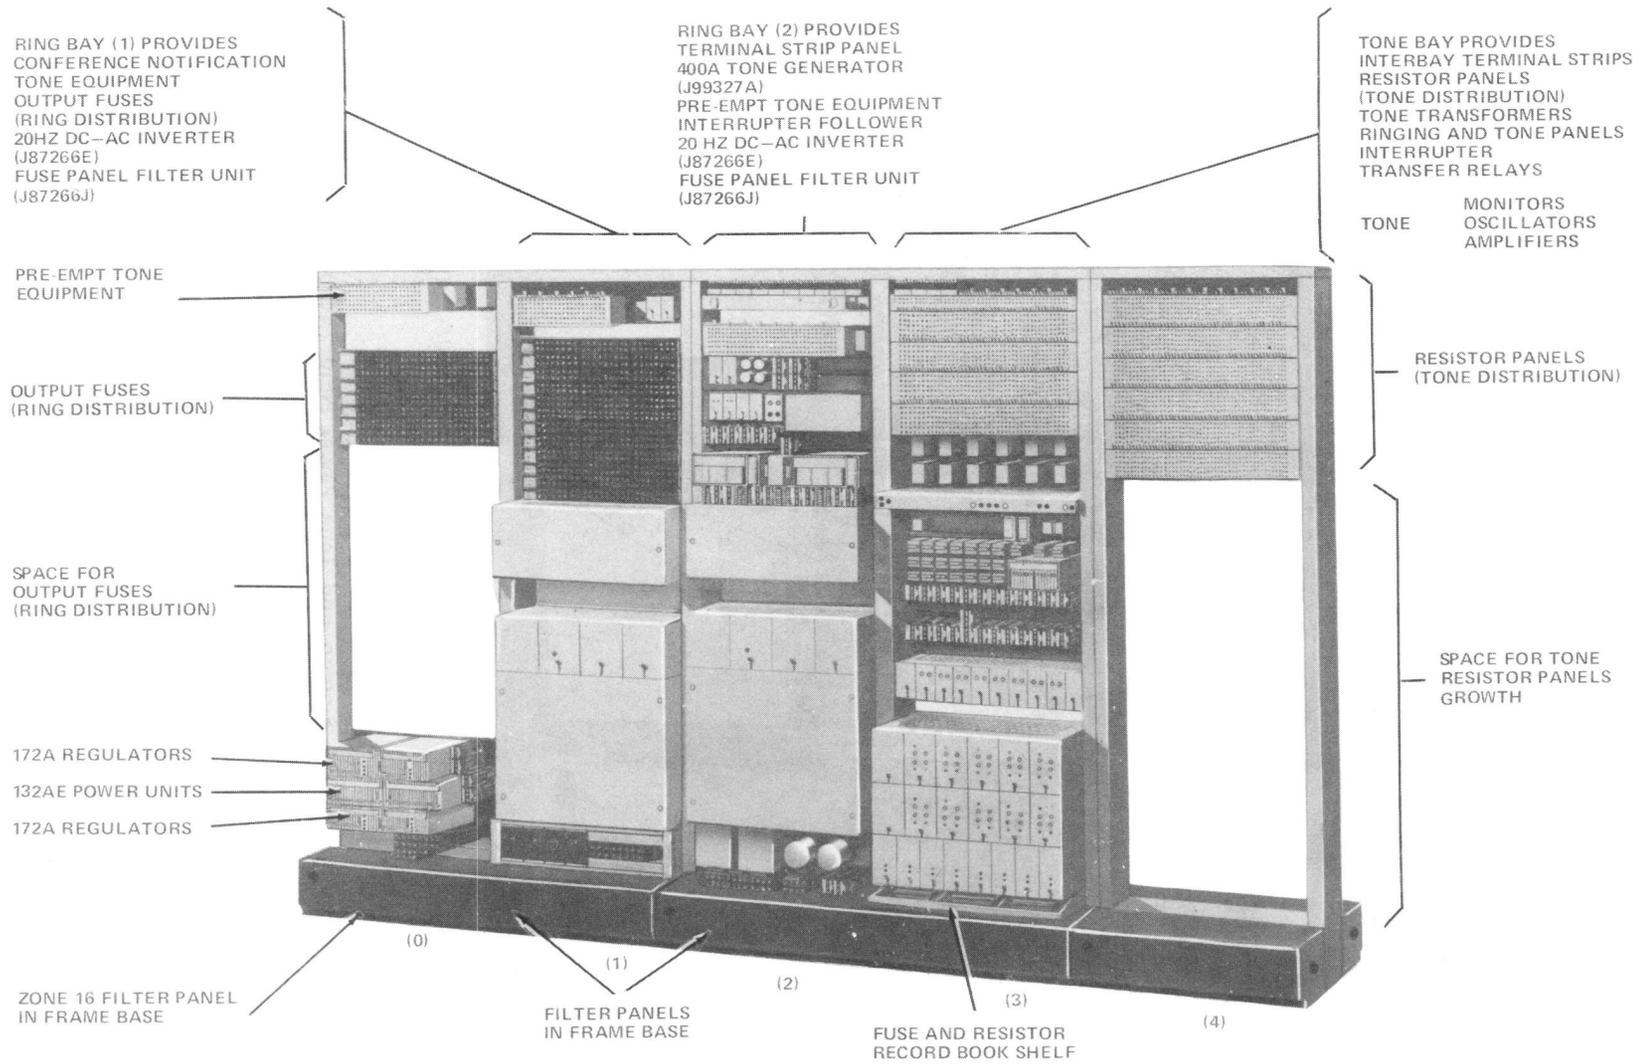

Fig. 2—Fully Equipped 808A Ringing and Tone Plant (Superimposed)
2.03 *Superimposed Office:* This office requires two double bays and one single bay located to the right of the double bay in the lineup (see Fig. 2).
2.15 The solid-state interrupter (see Fig. 2) is located above the control, test, and transfer relays on bay 3. The interrupter provides the interruptions for machine ringing, tones, and signaling.